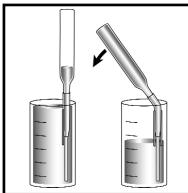

Figure 3
6. Place the VACUette in the dilutor snapper cup and snap the tip (fig 3). The ampoule will fill leaving a bubble to facilitate mixing.